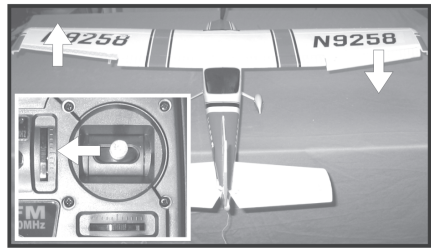

Figure 18b
- If you push the right control stick on the transmitter (see figure 2, pos. 4) to the left, the left aileron (1) has to deflect by approx. 1.2 cm upwards and the right aileron (2) by approx. 1.2 cm downwards (see figure 18b).